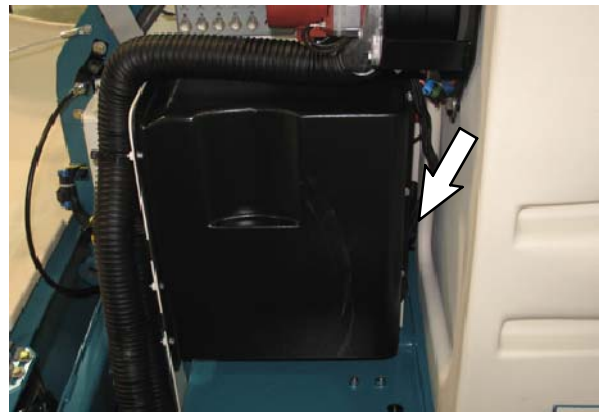

FIG. 16
19. Route both 45" (1140 mm) hoses from the operator compartment and into the control board compartment. Refer to Fig. 16.